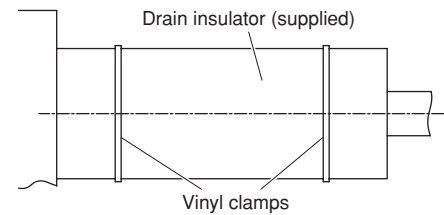

Fig. 3-69
- After connecting the drain piping securely, wrap the supplied packing and drain pipe insulator around the pipe, then secure it with the supplied vinyl clamps. (Fig. 3-69)